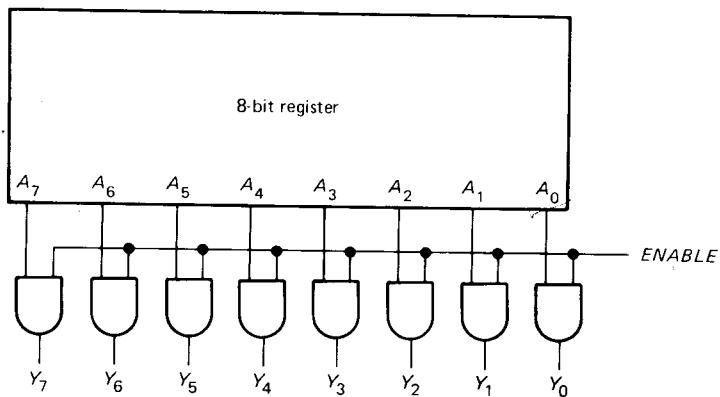

Fig. 2-19
- 2-10. Visualize the register contents of Fig. 2-19 as the word $A_7A_6 \dots A_0$, and the final output as the word $Y_7Y_6 \dots Y_0$. What is the output word for each of the following conditions:
- 2-11.** The 8-bit register of Fig. 2-19 stores 59_{10} . What is the decimal equivalent of the final output word if *ENABLE* = 0? If *ENABLE* = 1?